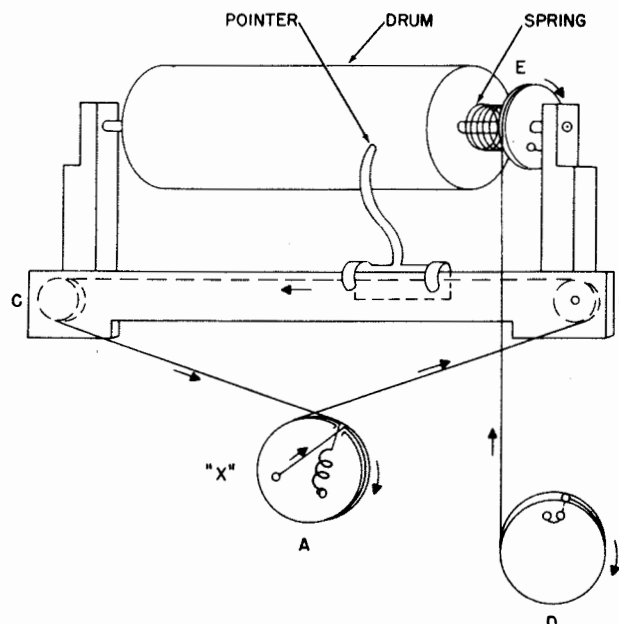

Figure 7-6. Dial Cord Arrangement
(1) MEGACYCLE POINTER CORD.
(a) Refer to figure 7-6. Remove the front panel as in paragraph 5. a. (1)(a). If the cord is to be replaced, use 36-5/8 inches nylon coated cord. (Parts List Item O-163).
2. Tie a loop in the cord. Loop the cord over the tab at point x in figure 7-6.
2. Turn pulley E, figure 7-6, about one-half turn and hold tension of spring.